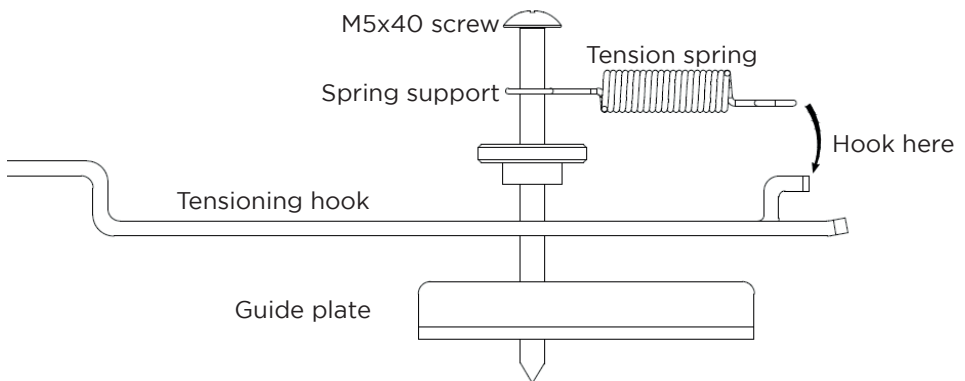

Fig. 1
3. **Lower mounting bracket** | Assemble the bracket with the components according to fig. 1